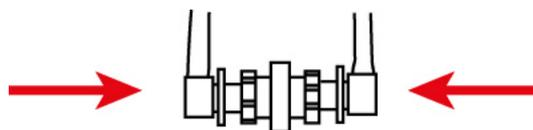

Figure 21: Secure the Luer adapters in the Female Luer Coupler.
- (b) Make sure the Luer adapters in the Female Luer Coupler are secure (Figure 21).